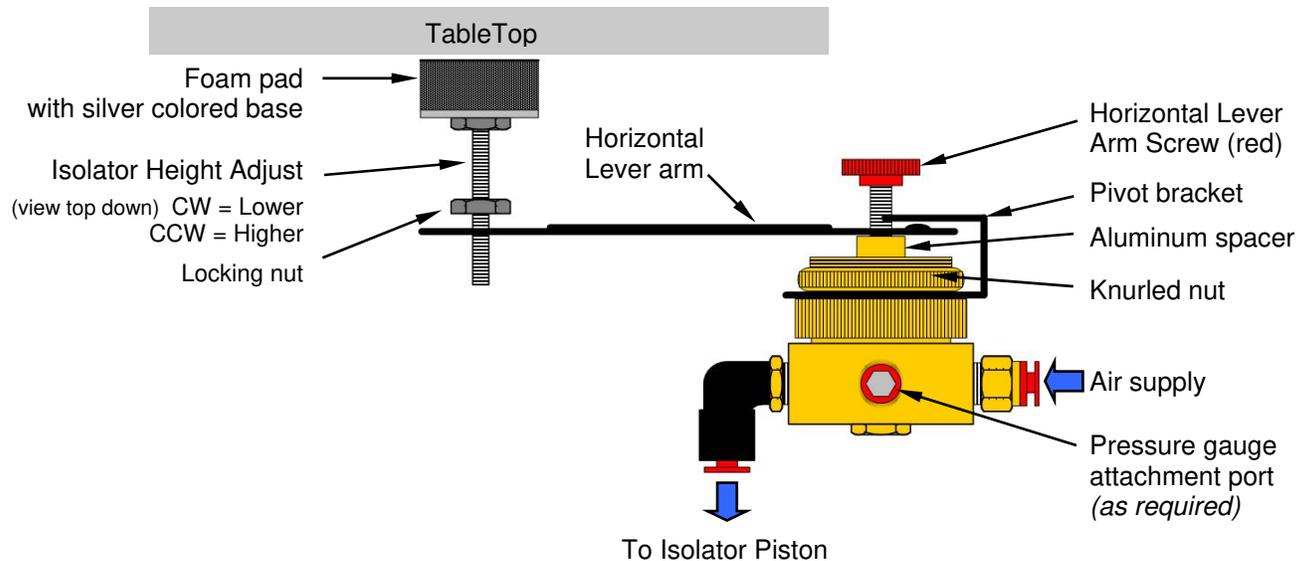

Figure 10 *Height Control Valve*
Step 17 Tighten *locking nut* on **ISOLATOR HEIGHT ADJUST** for all three valves as shown in figure 10, *Height Control Valve*.